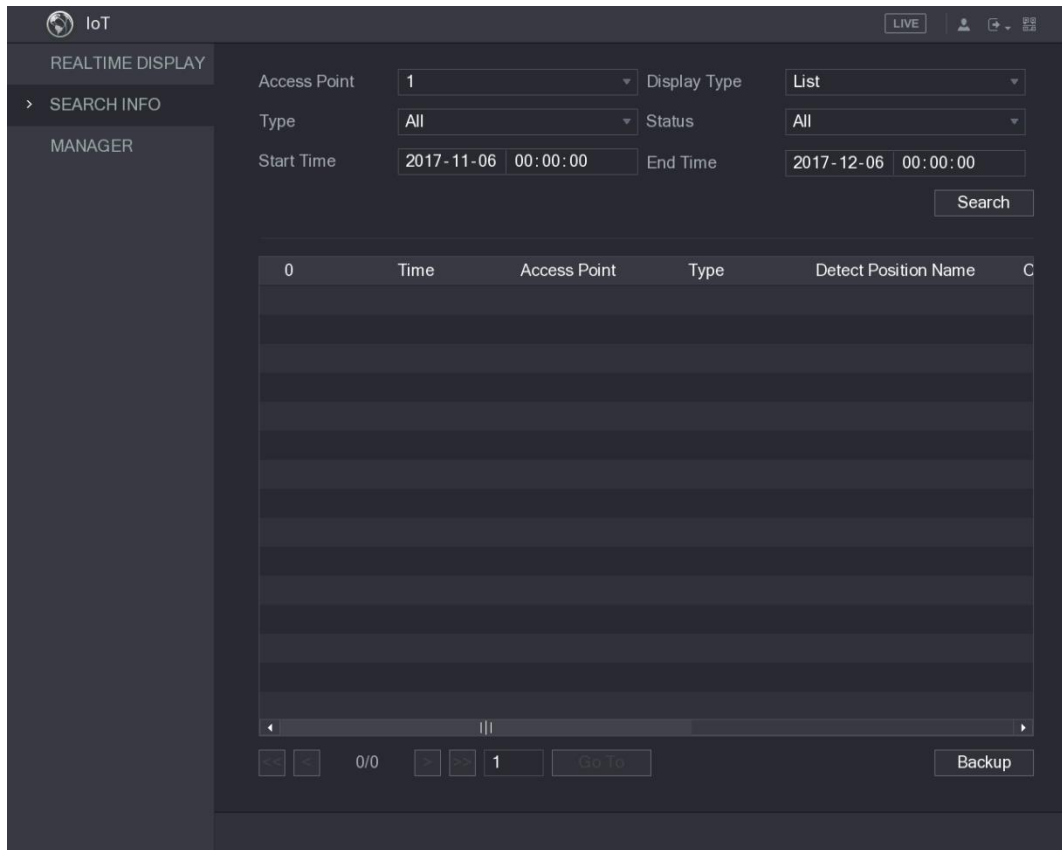

Figure 5-179
Step 1 On the main interface, select **IoT > SEARCH INFO**. See Figure 5-179.